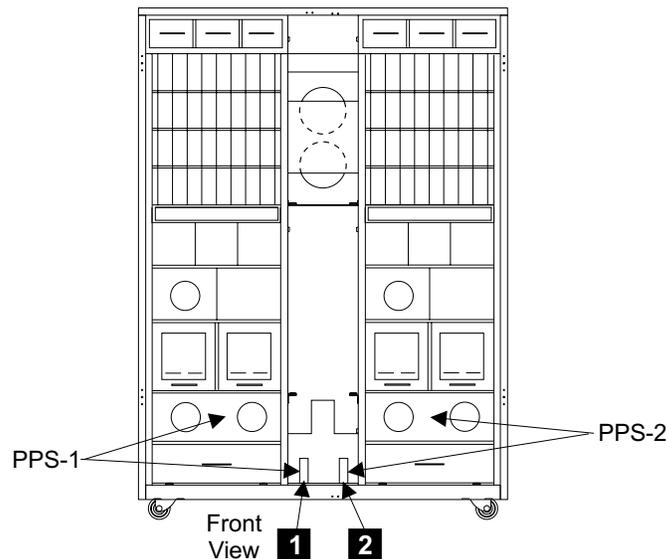

Figure 220. Line Cord Bracket Connectors (S008605m)
1. Disconnect the problem mainline power cable **1** [Figure 220] or **2** from the line cord bracket.